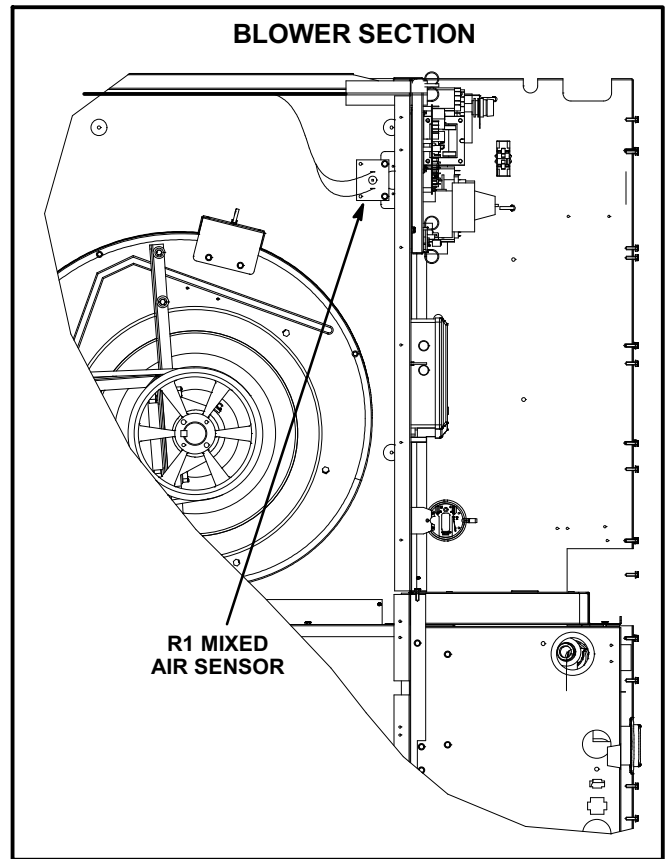

FIGURE 7
- 2- Install sensor on bracket as shown in figure 7.